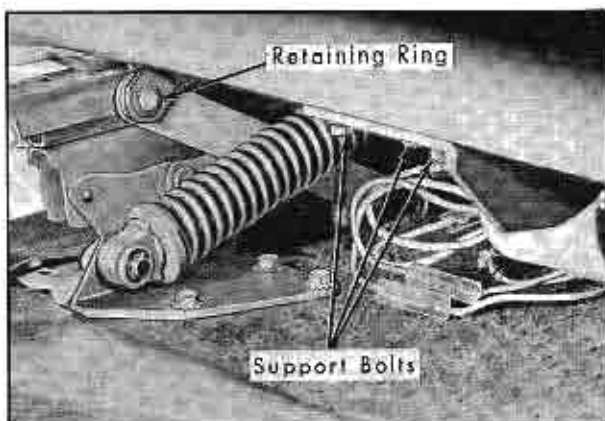

Fig. 3-61 Detaching Horizontal Equalizing Rod Links (Sedans)
5. On sedan models, move seat to forward position and remove retaining ring, Fig. 3-61, and washer from both seat adjuster horizontal equalizing rod links and detach links from rod arms.